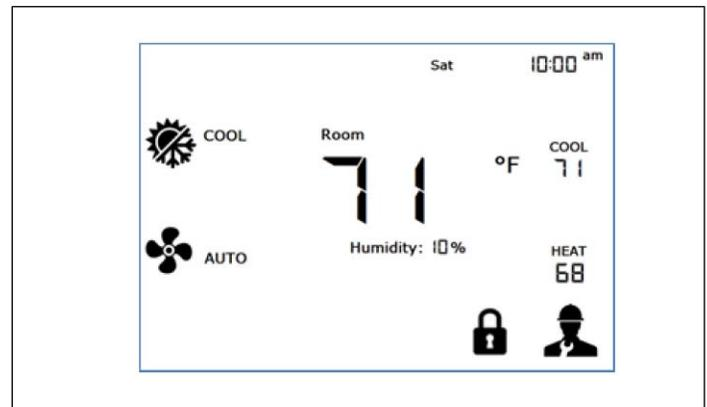

Figure 3-30 - Locked Screen with Lock Icon
Fan mode can be either AUTO or ON. To change the Fan Mode, press (touch) the icon  (Figure 3-30). When the FAN_MODE is AUTO, the fan will be active only when heating or cooling call is active. While when FAN_MODE is ON, the fan stays active (ON) independently of "Thermostat mode" or heating and cooling conditions.
When the screen is completely locked, a lock icon will appear on the screen (see **Figure 3-30**). While the screen is partially locked, if something other than setpoints is touched or pressed, the lock icon will appear for short time (approximately one second) to indicate that the touched button is locked.